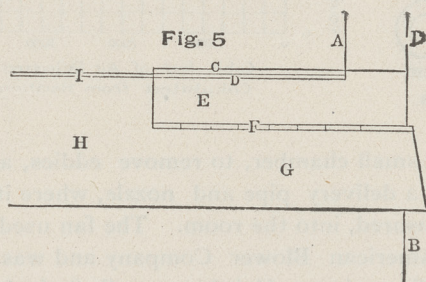

Fig. 5
Fig. 5 illustrates the vicious, but common way of repairing to support the fire-place and hearth. This is one which causes, on a low estimate, one hundred fires in United States and Canada every month during the winter. In this cut the joist (G) is shown running under the fire-place and resting on the wall (B); it is cut down a few inches; boards (F) are nailed on and a course of brick (E) laid on them; on these brick a course of sand